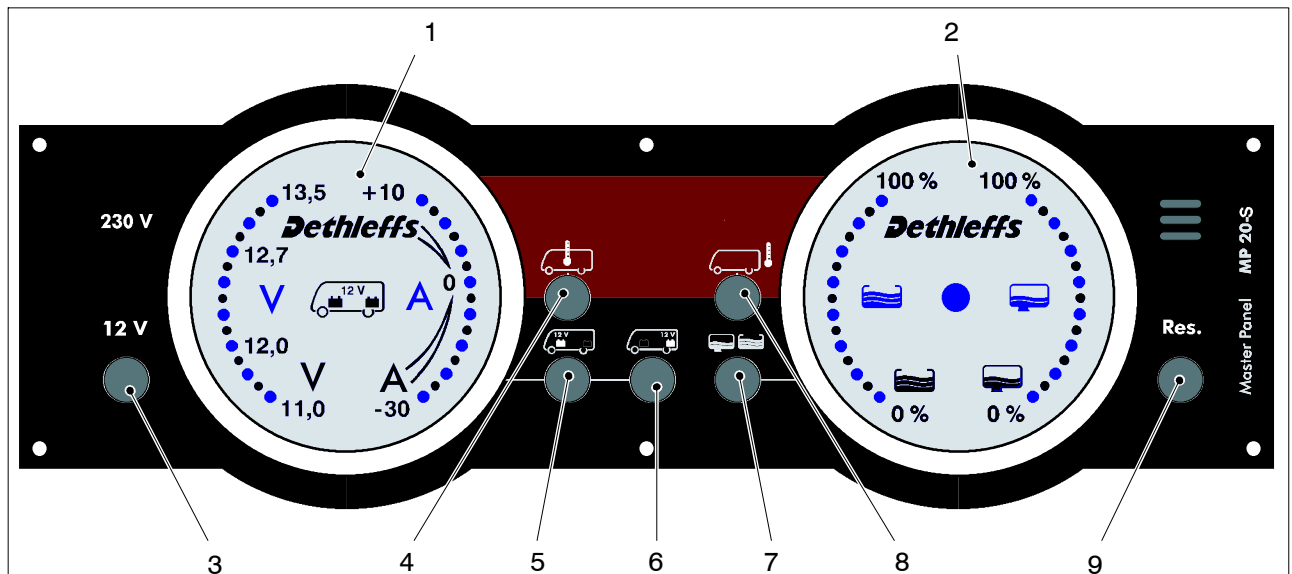

Bild 1 Layout of the MP 20-S display panel
- Press the "Living Area Battery" button once (underneath the living area battery symbol, Fig 1, Pos. 6).
► Press the "Vehicle Battery" button once again (underneath the living area battery symbol, Fig 1, Pos. 5). The display is analogous to the living area battery (see Fig. 2):